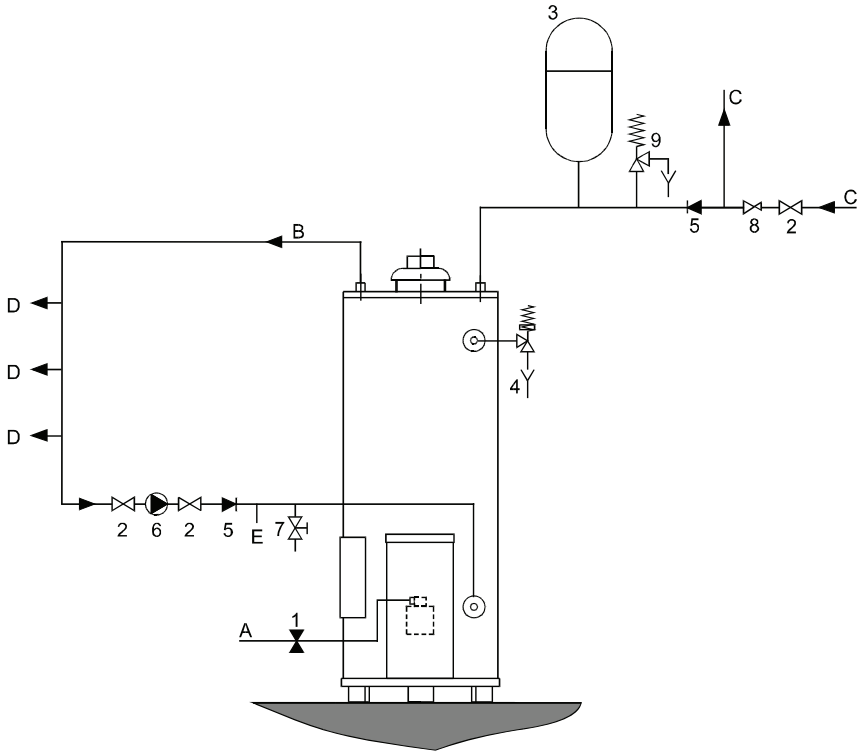

Figure 5 - Connection diagram unvented systems
**Unvented system** (See figure 5)